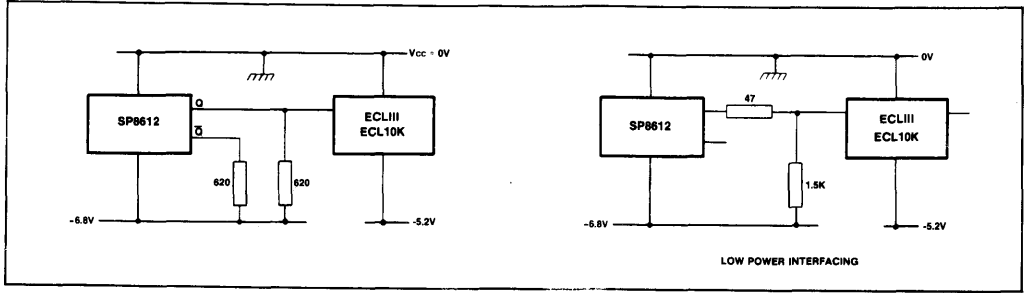

Fig.7 Interfacing SP8612 series to ECL 10K and ECL III
5. The emitter follower outputs require external load resistors. These should not be less than 330 ohms, and a value of 620 ohms is recommended. Interfacing to ECL III/10K is shown in Fig. 7.